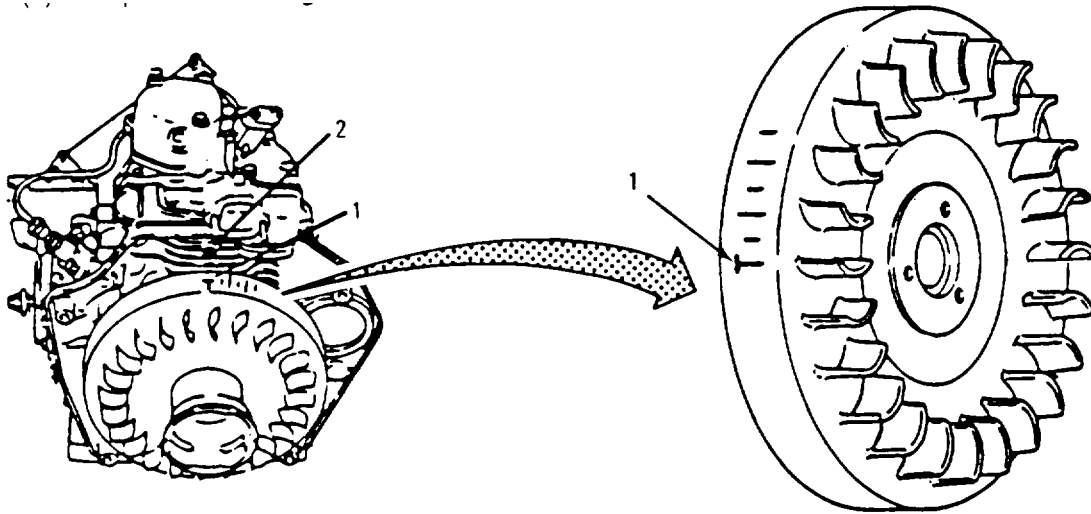

Figure 5-9. Top Dead Center Position
- d. Test. (Refer to Figure 5-9)